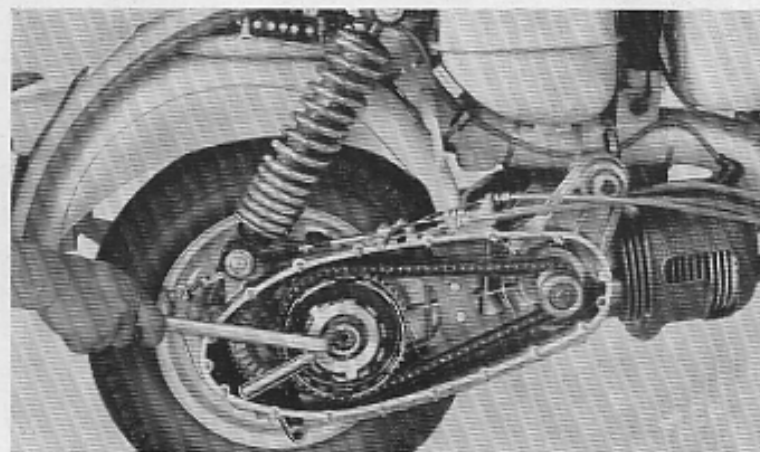

Fig. 7
- 10 To unscrew nut fixing internal clutch bell housing: lock bell housing with tool No. 59804 and unscrew nut fixing this to the main shaft (22mm spanner) See Fig. 7.